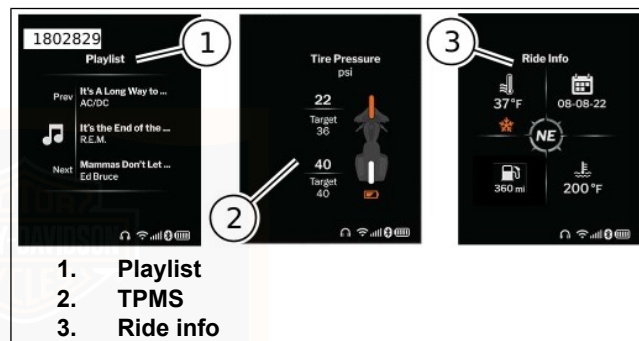

Figure 35. Widget Options
See Figure 35. **Playlist:** The Playlist widget (1) displays the current playlist information from a connected device. This information includes song title and artist name.